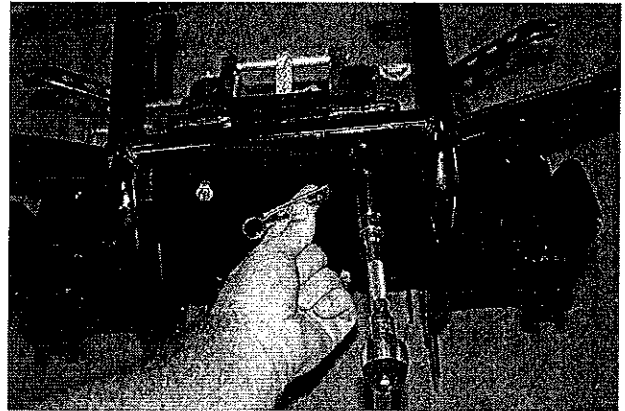

Figure 4
6. Position plow mount to bumper as shown in fig 4. Bolt plow mount to bumper using two front fastener locations.